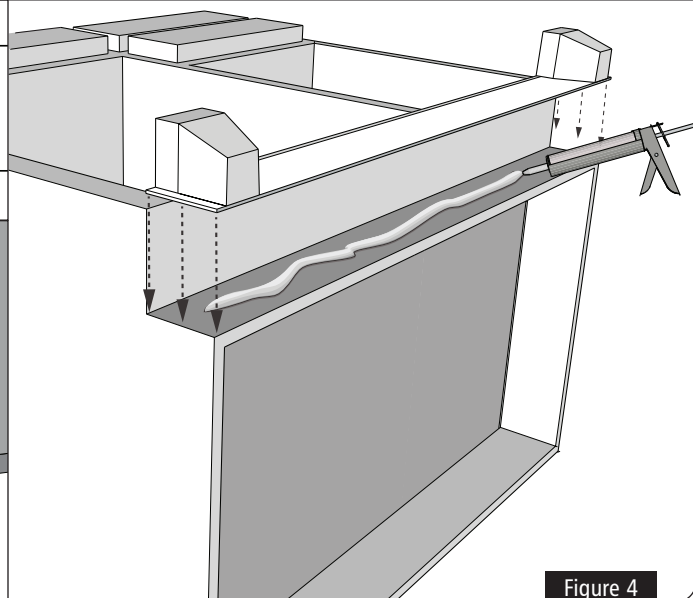

Figure 4
- 7** Apply a bead of construction adhesive to the vanity toe kick as shown in Figure 4.